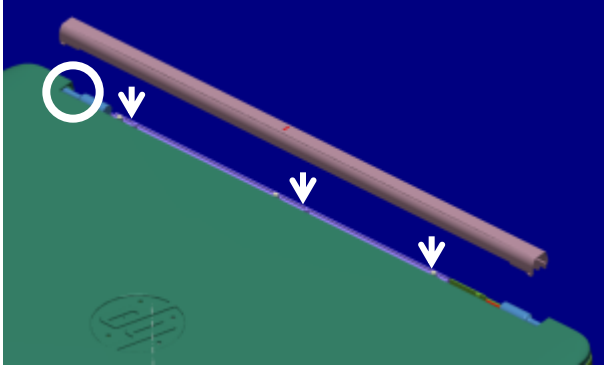

Fig.1
2. disassembly hinge cover (6051B0803401) from TPCB. (Fig.1)